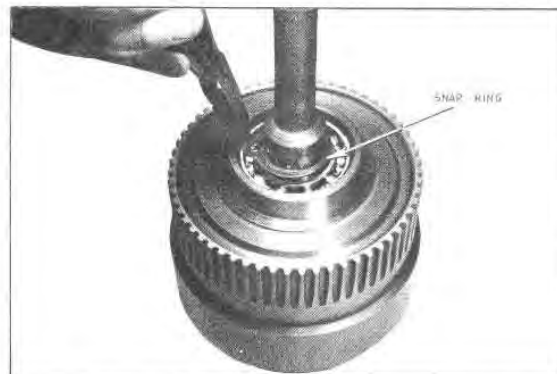

Fig. G70 — Installing the Drive Gear Bearing Snap Ring
34. Install the drive bearing snap ring (Figure G70).